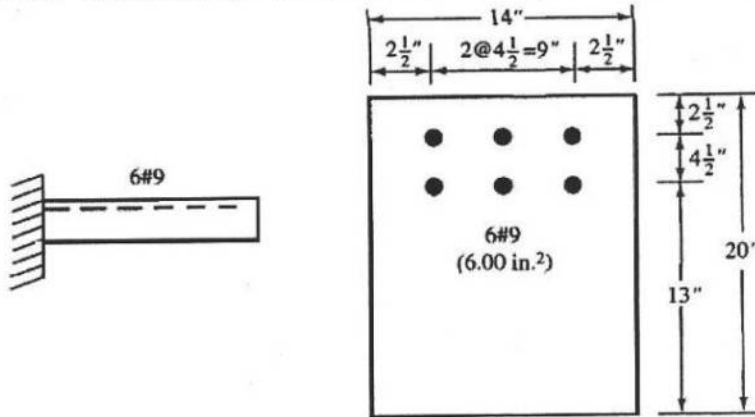

Fig 8
b) Define development length. Explain the relationship of (i) location of reinforcement (ii) Coating of bars and (iii) size of reinforcing with development length by means of the factors Ψ_t , Ψ_e and Ψ_s . (5)
7. Determine the development or embedment length required for the epoxy-coated bars of the normal weight concrete beam shown in Fig 8. Given, $f_c = 4000$ psi, $f_y = 60000$ psi.
- If the bars are straight, assuming $K_{tr} = 0$. (2)
- If a 90° hook is used. (show the hook dimensions beyond critical section) (4)
- If a 180° hook is used. (show the hook dimensions beyond critical section) (4)